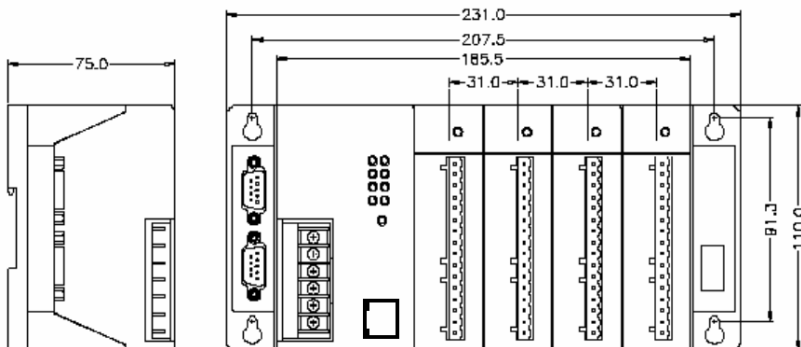

Figure 1-2 ADAM-5510M and ADAM-5510/TCP Dimension
- RS-232/485 Mode Selectable (Select by jumper setting, refer to Figure 1-2)